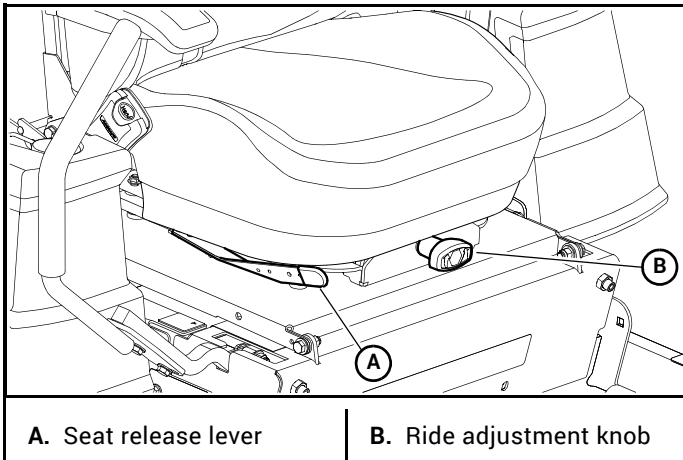

Figure 4-21
1. Use the seat release lever to slide the seat forward and rearward. Figure 4-21
2. Adjust the seat firmness by turning the ride adjustment knob. Figure 4-21